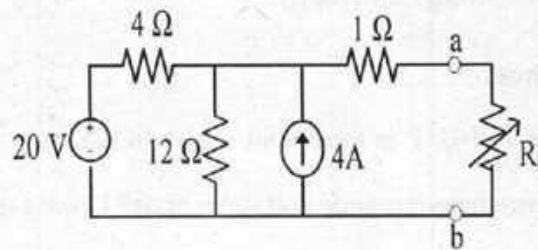

Fig. 4(b)
- (b) Find Thevenin's equivalent circuit to the left of a-b terminal of circuit shown in Fig. 4(b). [20]